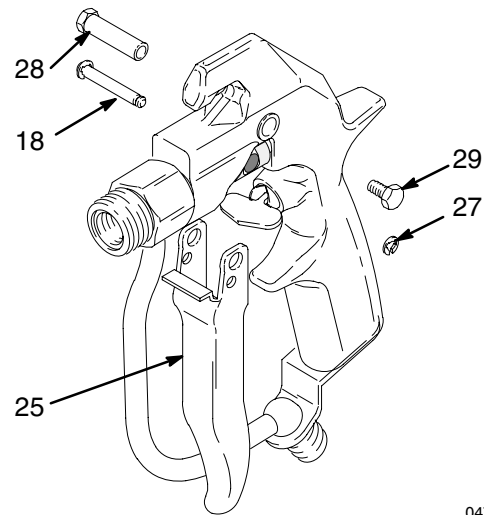

Fig. 8 04732
4. Remove one e-clip (27). Push out the pin (18). Remove the screw (29), pivot pin (28), and trigger (25). See Fig. 8.